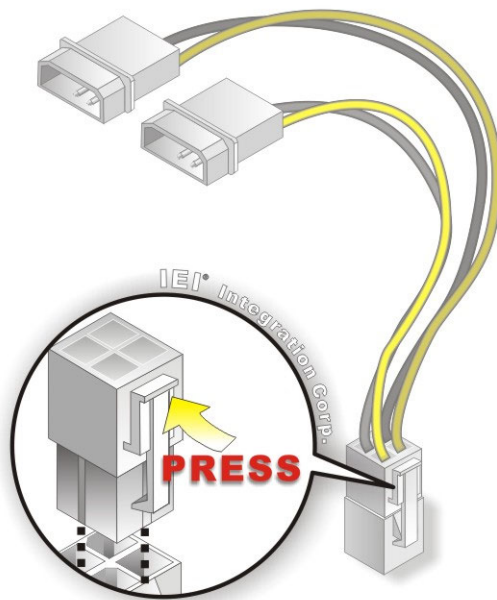

Figure 4-9: Power Cable to Motherboard Connection
Step 2: **Connect the Power Cable to the Motherboard.** Connect the 4-pin (2x2) Molex type power cable connector to the power connector on the motherboard. See Figure 4-9.